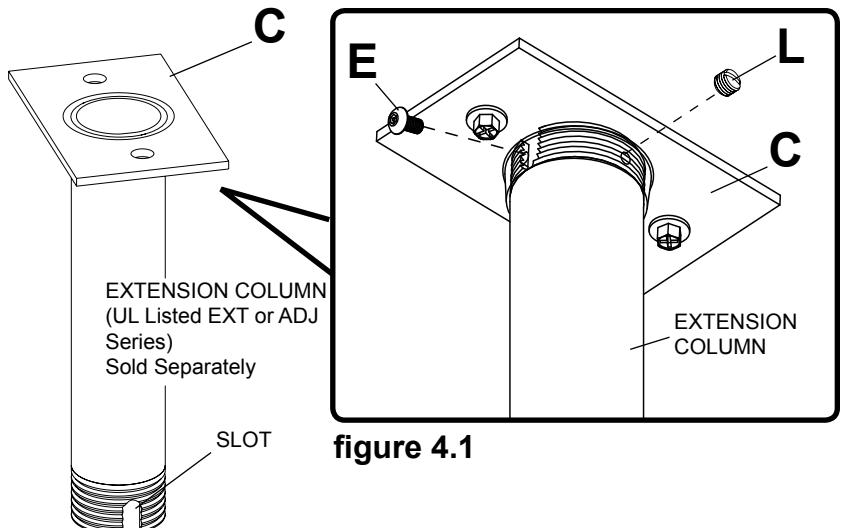

figure 4.1
4 Screw extension column to ceiling plate (C). Align the notch with one of the four holes in the ceiling plate (C) and secure extension column with a M5 x 10 mm socket pin screw (E) using security allen wrench (U). **See figure 4.1**